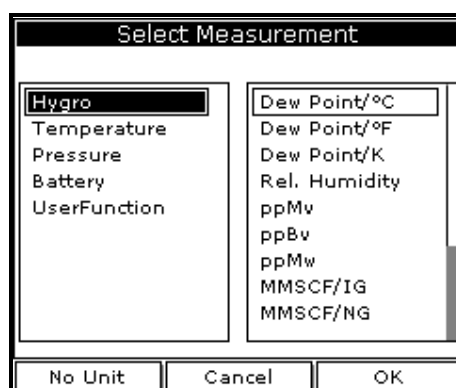

Figure 7: Select Measurement Window
2. Use the arrow keys to scroll to Measurement and press **[ENTER]**. The screen appears similar to Figure 7. The left column displays the five measurement types and the right column displays the measurement units.